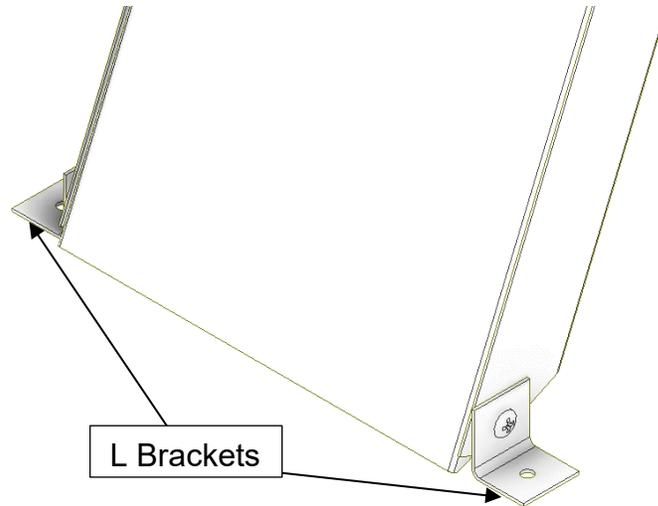

Figure 18
5. Attach L brackets to the top outer and bottom outer covers as shown in Figure 18 using M8 bolts.